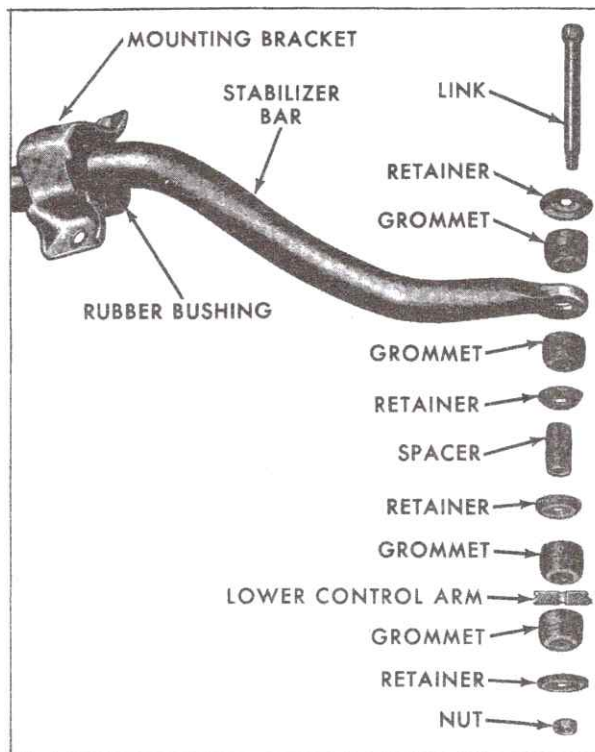

Fig. 3-45 Front Stabilizer Linkage
2. Assemble grommets, spacers, and retainers on new link bolt as shown in Fig. 3-45.